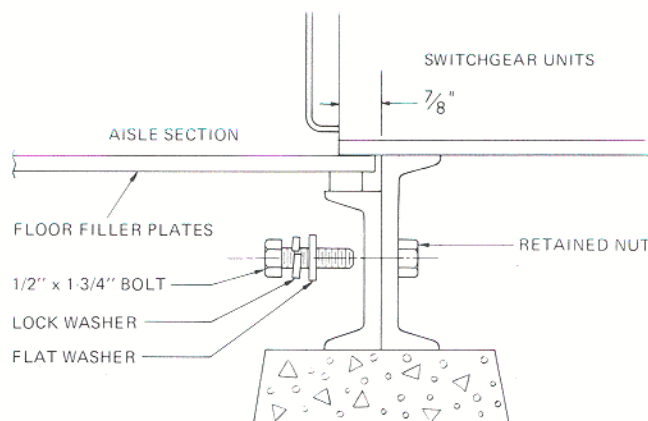

FIGURE 41
3. Remove the floor filler plates immediately in front of the units and bolt the channel base (Figure 41) to the unit base with the bolts provided. Replace the floor filler plates.